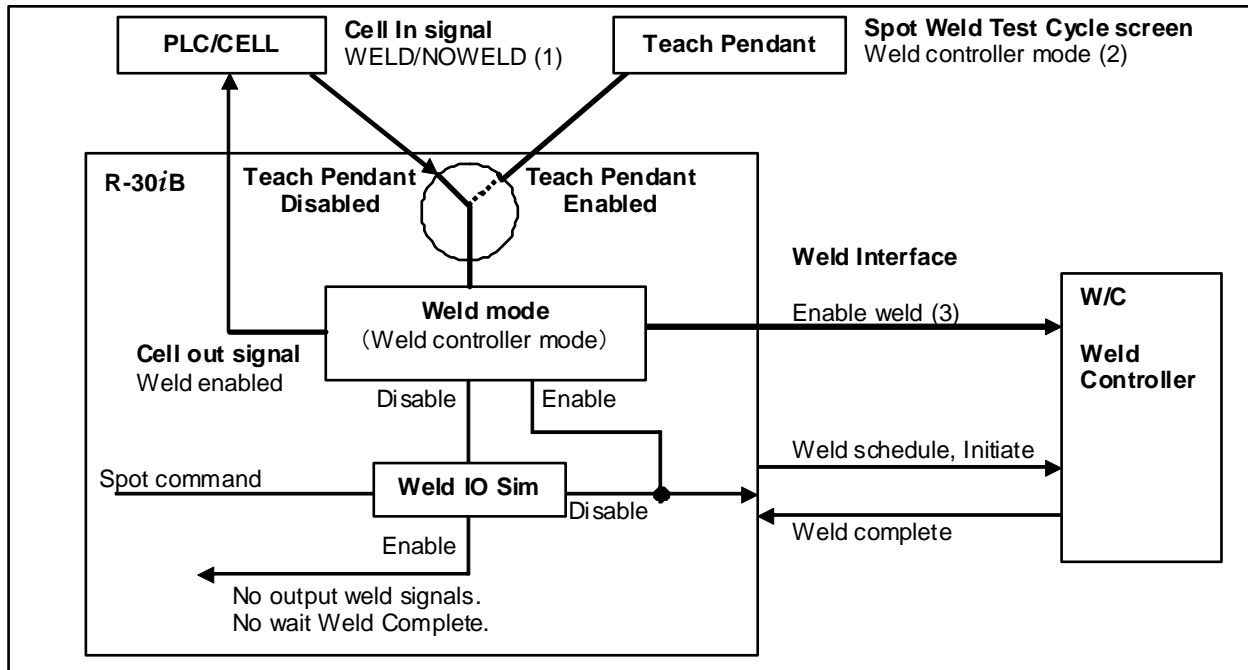

Fig.4.4 Weld mode
Robot's weld mode can change by WELD/NOWELD signal ((1) in Fig.4.4) in cell interface input signals. Effective of input signal is only the following.
Moreover, Robot's weld mode can be changed from spot weld test cycle screen ((2) in Fig.4.4)). However, when following conditions consist, Robot's weld mode cannot be changed on spot weld test cycle screen. Refer to chapter 8 TEST CYCLE for spot weld test cycle screen.
When the enable weld signal ((3) in Fig.4.4) is assigned, a robot changes the weld mode of the weld controller by this signal. <Note 1>